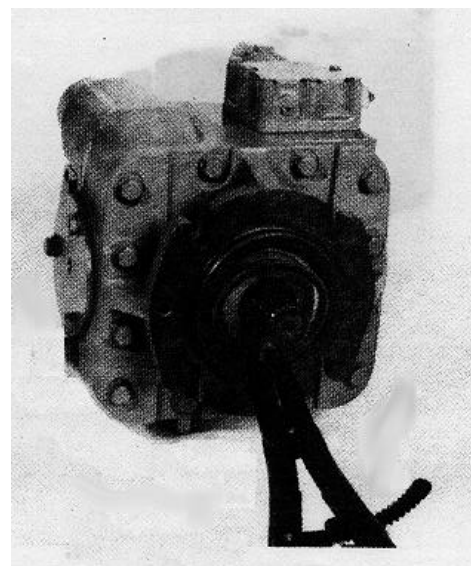

FIGURE 7-61.
- b. Insert Tru-Arc #7 pliers in snap ring holes, compress the ring and roll it out (see figure 7-61).